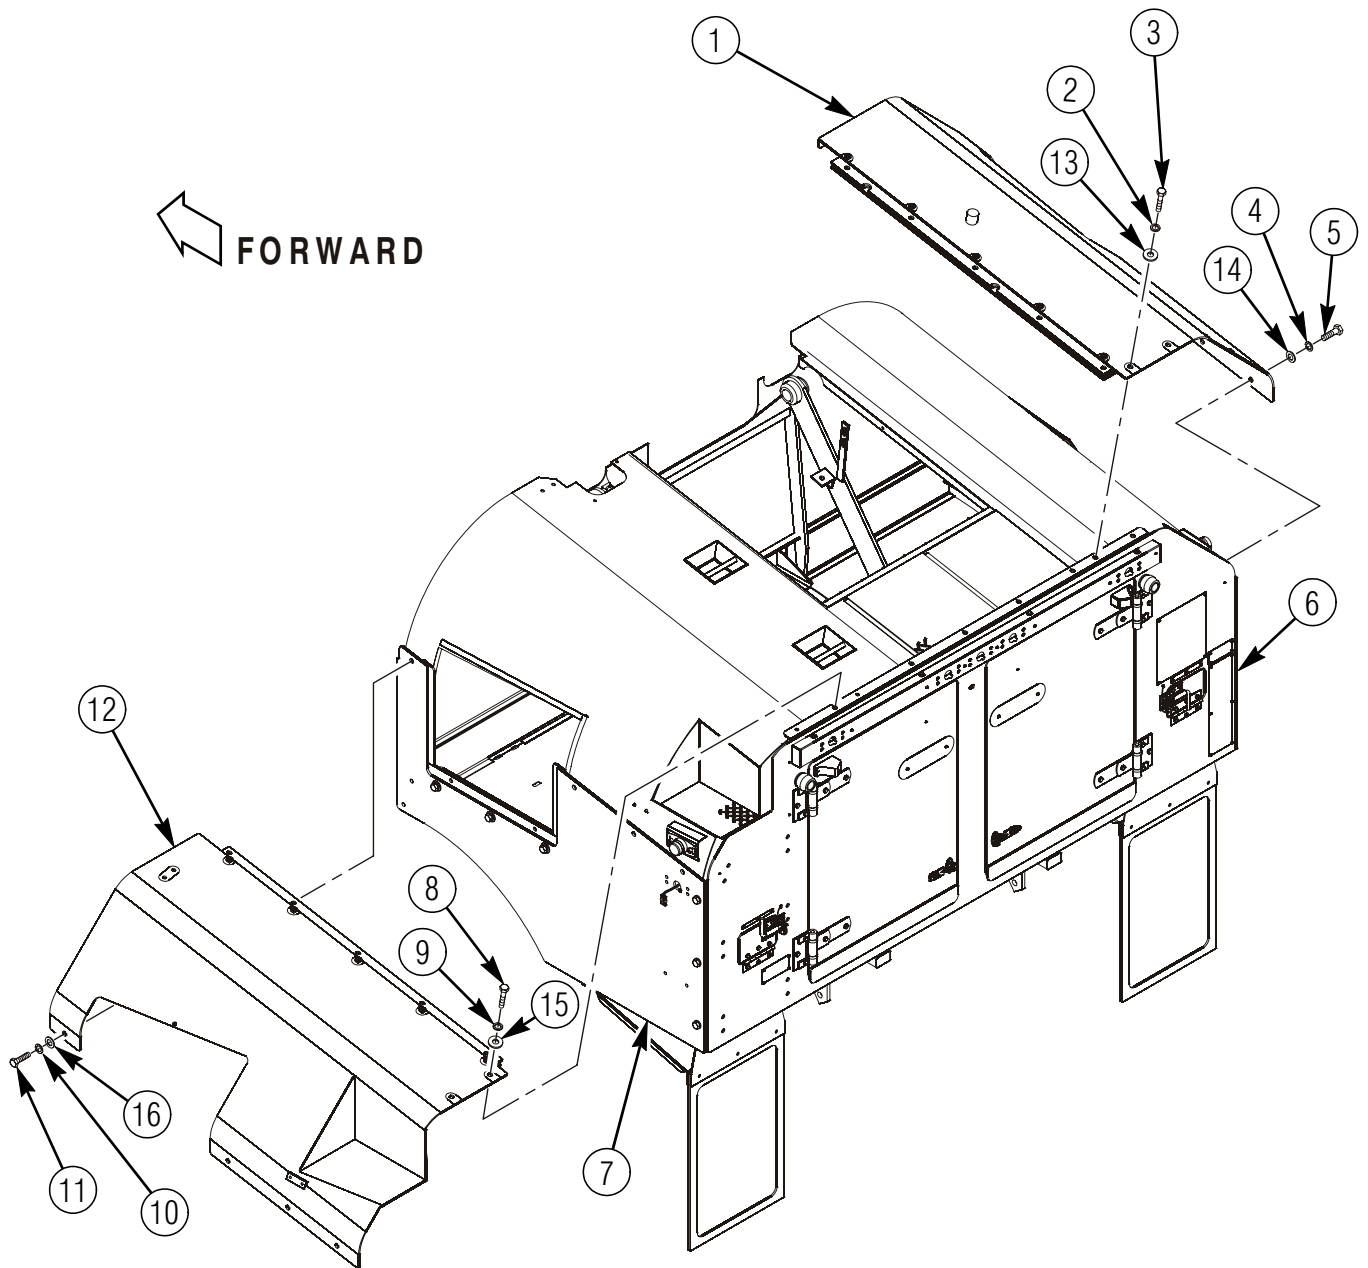

Figure 4.
1. Install 6433307-01M1 or 6433307-200M1 left upper side panel assembly (12) and secure to left lower side panel (7) with four 4397000-382 capscrews (11), 4397004-009 lockwashers (10), and 4397005-016 washers (16) as shown in figure 4. Do not tighten capscrews (11) at this time.
2. Install 4397000-382 capscrew (8), 4397004-009 lockwasher (9), and 4397005-016 washer (15) in rear edge of left upper side panel assembly (12) as shown in figure 4. Do not tighten capscrew (8) at this time.
3. Install 6433306-01M1 or 6433306-200M1 right upper side panel assembly (1) and secure to right lower side panel (6) with four 4397000-382 capscrews (5), 4397004-009 lockwashers (4), and 4397005-016 washers (14) as shown in figure 4. Do not tighten capscrews (5) at this time.
4. Install five 4397000-382 capscrews (3), 4397004-009 lockwashers (2), and 4397005-016 washers (13) in rear edge of right upper side panel assembly (1) as shown in figure 4. Do not tighten capscrews (3) at this time.
7. Tighten five capscrews (3) in rear edge of right upper side panel assembly (1) to 60 lb-ft. Refer to figure 4.
8. Tighten four capscrews (5) securing right upper side panel assembly (1) to right lower side panel assembly (6) to 60 lb-ft. Refer to figure 4.
9. Tighten capscrew (8) in rear edge of left upper side panel assembly (12) to 60 lb-ft. Refer to figure 4.
10. Tighten four capscrews (11) securing left upper side panel assembly (12) to left lower side panel assembly (7) to 60 lb-ft. Refer to figure 4.